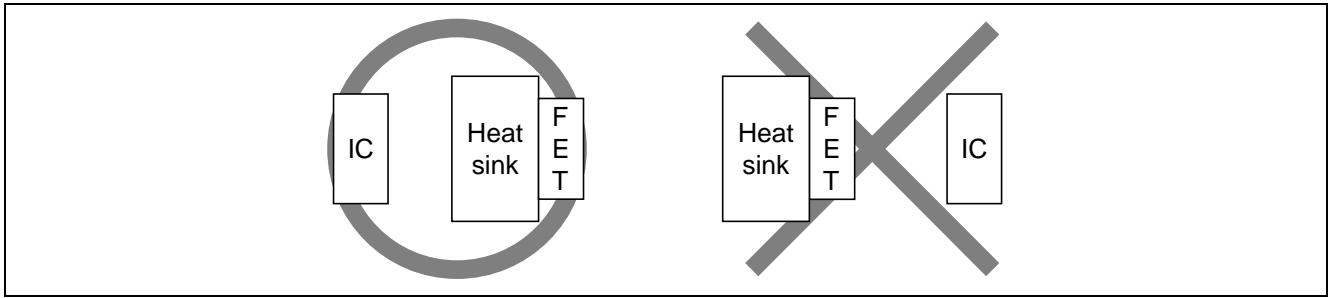

Figure 25 Example of Layout of Parts
(6) There is a potential that placing the heat sink between ICs and power MOSFET will be a some kind of shield and reduce the radiation noise (figure 25).